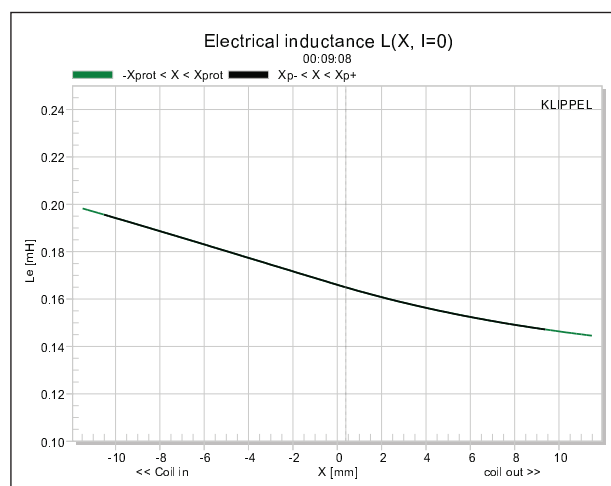

Figure 21: Klippel analyzer L(X) curve for the Scan-Speak Ellipticor 18WE/4542T00
**Figure 21** gives the inductance curves  $L_e(X)$  for the 18WE/4542T00. Inductance will typically increase in the rear direction from the zero rest position as the voice coil covers more pole area, which is what you see here. However, because of the effective use of copper shorting rings, the inductive swing from  $X_{max}$  in to  $X_{max}$  out is a very small 0.037 mH, which is very good performance.